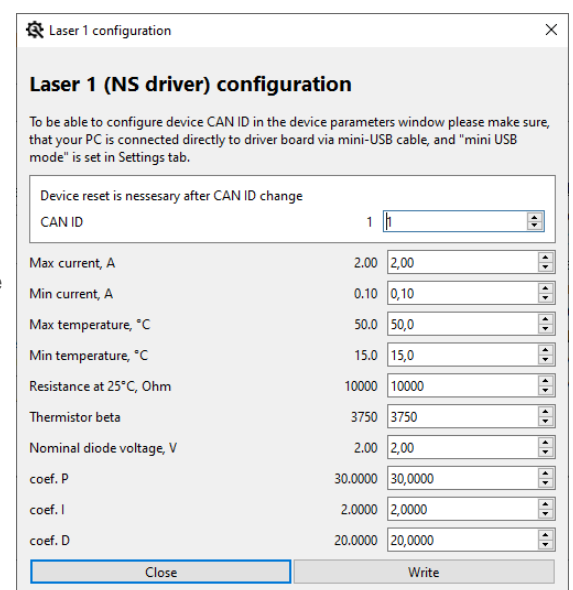

Figure 2: The laser diode setting menu
11. Click icon located in the control panel’s upper right corner to enter the driver setting mode. The driver setting mode allows entering laser diode parameters and the permitted range of laser operating conditions (fig. 2).
The system configuration window (fig. 2) is accessed by pressing “Settings” in the navigation bar. In this window the user can set the number of channels, CAN network ID and the names for the connected drivers.
The user can access the laser diode settings menu by pressing the wrench icon in the expanded main control view. The wrench icon will open a new individual menu for the connected laser diode, and the software applies the new settings only to that single diode. Available settings for nanosecond drivers are shown in Figure 2.